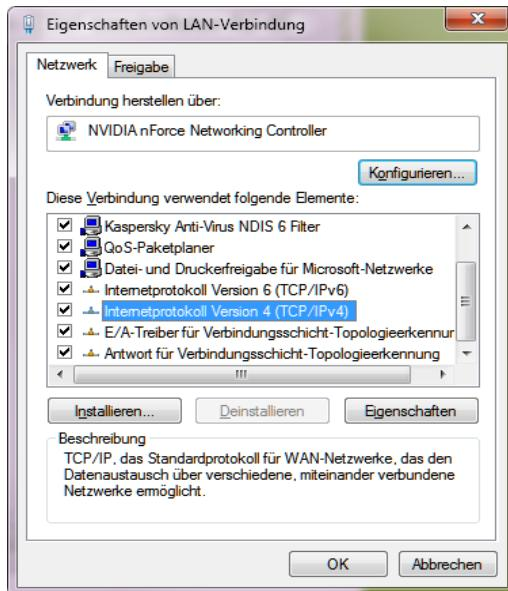

Figure 4: IP-Configuration Menu
2. Reconfigure the IP configuration under menu "**Internet protocol version 4**" of your PC's network interface and then press "**properties**" (see Figure 4)